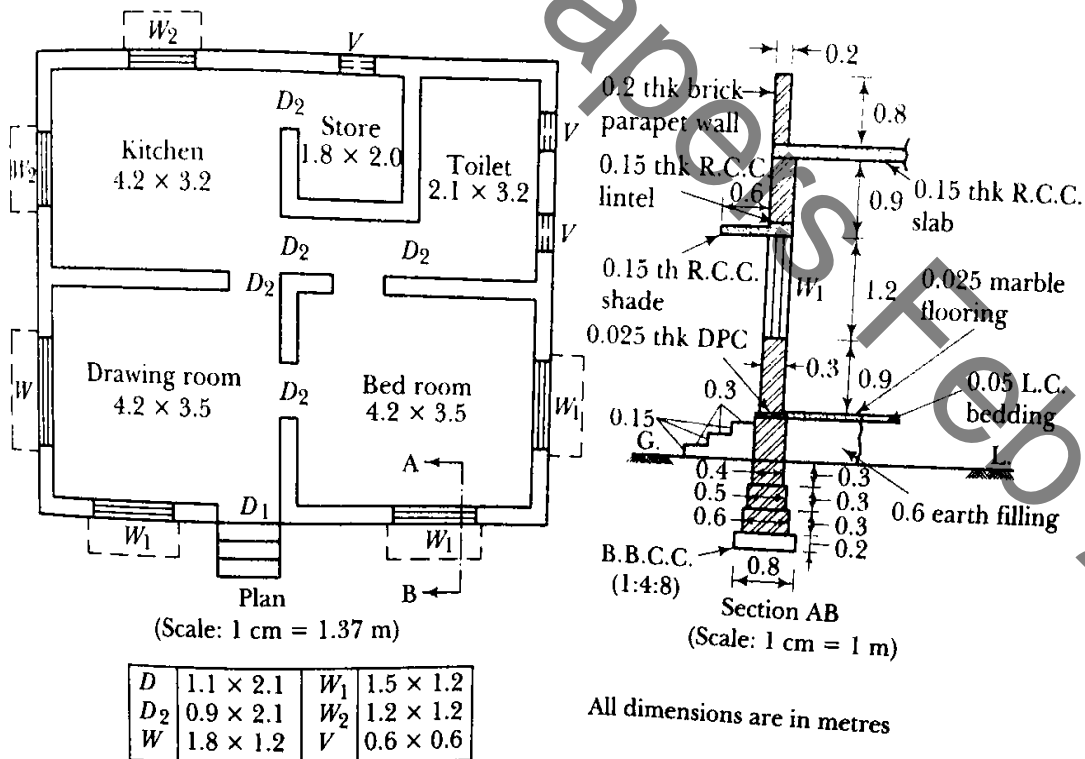

Figure.1
3. Estimate the quantity of earthwork in excavation for foundation, DPC and brickwork in parapet wall for the building shown in Figure 1. [15]